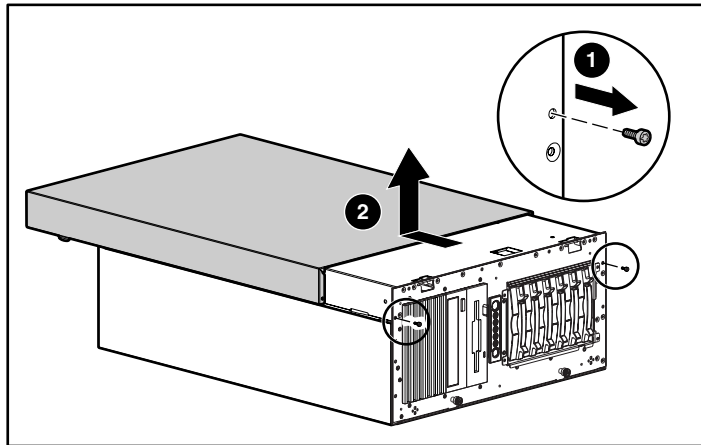

Figure 1-6. Removing the tower configuration panel
2. Using a Torx T-15 screwdriver, remove the two retaining screws ❶, as indicated in Figure 1-6.
3. Slide the panel back, and then up ❷. You may need to exert a small amount of force to release the panel from the chassis.